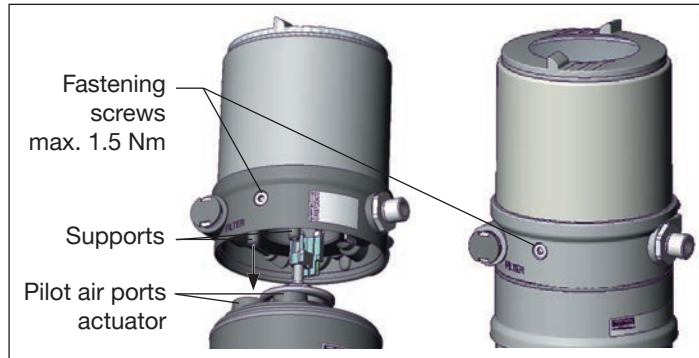

Fig. 13: Install control unit
2. the supports of the control unit can be inserted into the pilot air ports of the actuator (see also “Fig. 13”).